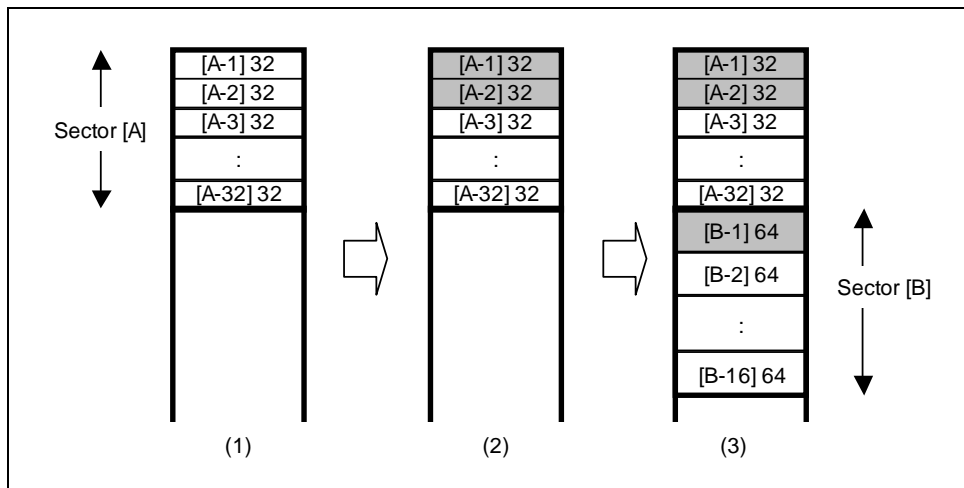

Figure 2.14 Example of Variable-Size Memory Pool
Figure 2.14 shows an example of a variable-size memory pool when the minimum block size is 32.
First a 32-byte memory block is requested. Sector [A] with $32 \times 32 = 1024$ bytes is allocated and 32-byte area [A-1] in the sector is assigned for the requested block (figure 2.14 (1)). When a 16-byte memory block is then requested, 32-byte area [A-2] in sector A is assigned (figure 2.14 (2)).
Next, a 36-byte memory block is requested. Since the size of each block in sector A is 32 bytes, no block in sector A can be assigned for this request. To respond to this request, new sector [B] is allocated for 16 blocks $\times 64$ bytes (the requested size, 36, is rounded up to a multiple of the minimum block size) = 1024 bytes, and 64-byte area [B-1] is assigned for the requested block (figure 2.14 (3)).